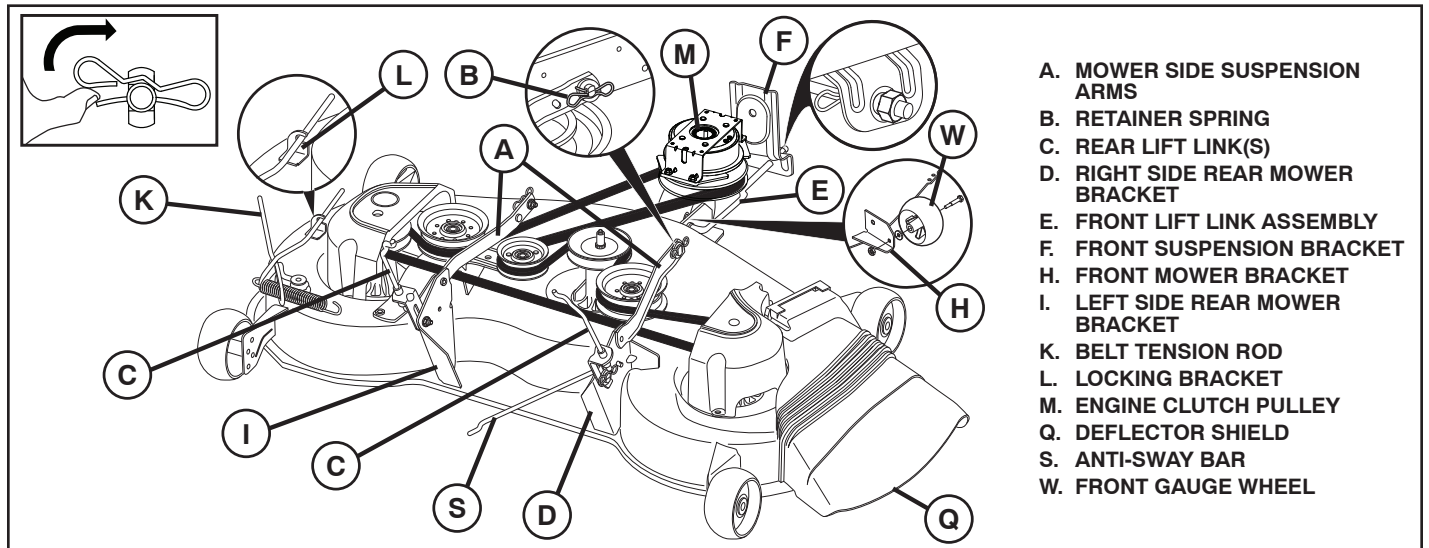

Fig. 22
## TO REMOVE MOWER (See Fig. 22)
## TO INSTALL MOWER (See Figs. 22 - 34)
## 9 INSTALL BELT ON ENGINE CLUTCH PULLEY (M) (See Fig. 22 & 34)
- Disengage belt tension rod (K) from locking bracket (L).
- Install belt onto engine clutch pulley (M).